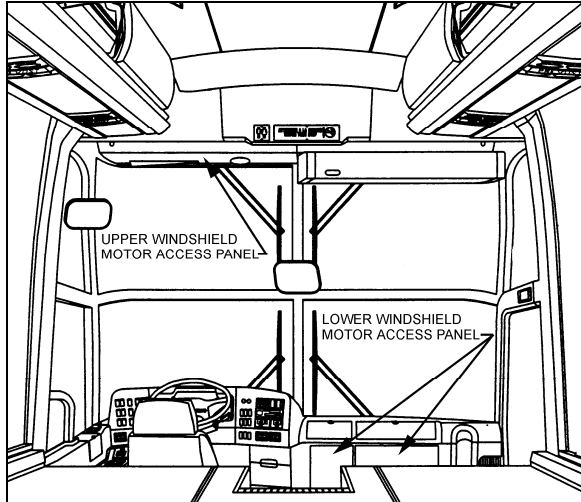

FIGURE 30: WIPER MOTORS LOCATION
The windshield wipers are controlled by two electric wiper motors that are accessible for maintenance after raising the appropriate access panel at the front of the coach (refer to figure 30).
7. Install the left wiper arm in its normal position (in the middle of the windshield (Fig. 30)). Refer to paragraph "8.2.1 Sweep Adjustment".
3. Install the left wiper arm in its normal position (in the middle of the windshield (Fig. 30)). Refer to paragraph "8.2.1 Sweep Adjustment".
The lower windshield wiper motor is located at lower front of the vehicle, behind the defroster panel. Refer to figure 30 for motor location.
The upper windshield wiper motor is located above L.H. upper windshield panel, refer to figure 30 for motor location. To remove the motor, it is necessary to remove left sun visor and upper windshield panel.